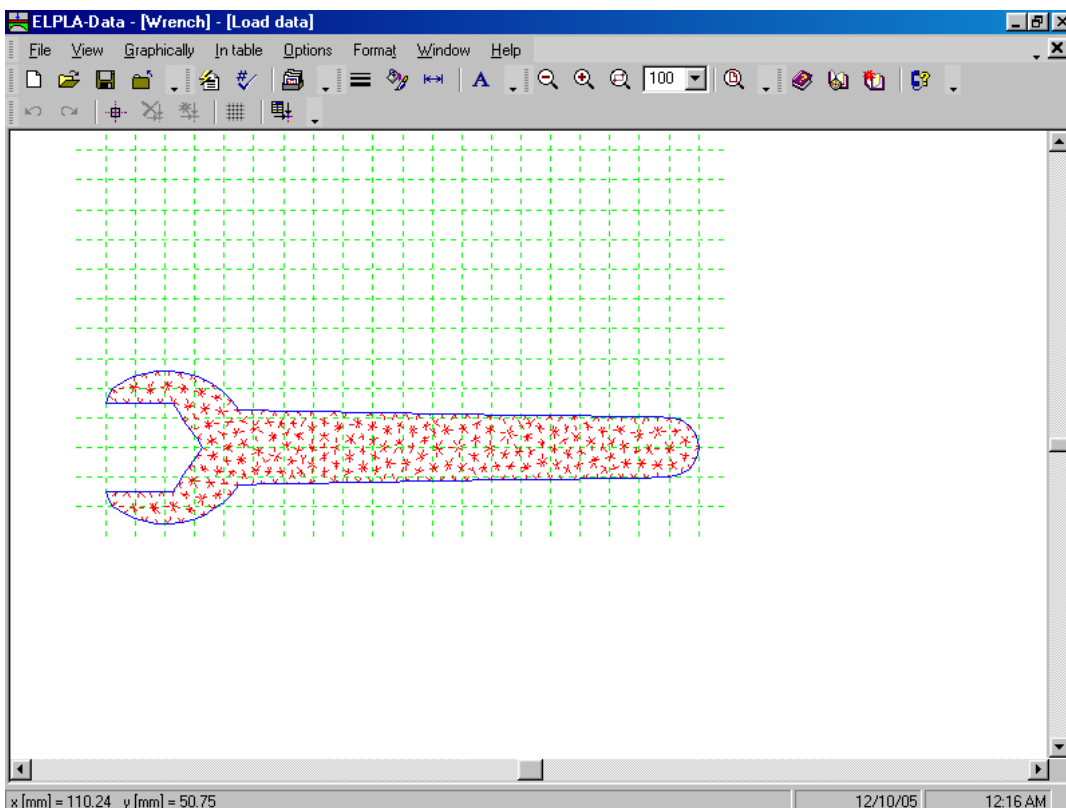

Figure 5-26 "Loads" embedded program
To define the load applied to the wrench, choose "Loads" command from "Data" menu of *ELPLA-Data*. The following embedded program in Figure 5-26 appears.
- Choose "Select nodes" command from the "Graphically" menu in Figure 5-26. When "Select nodes" command is chosen, the cursor will change from an arrow to a cross hair